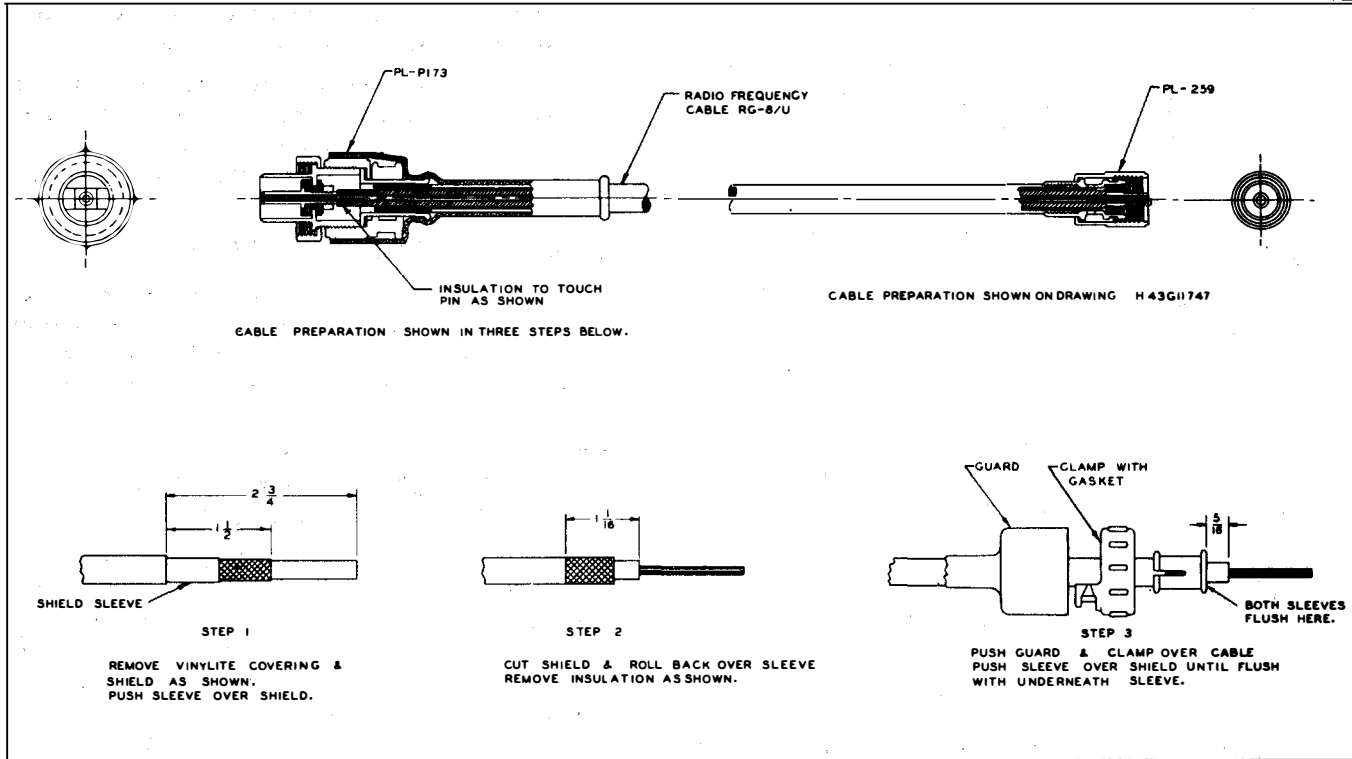
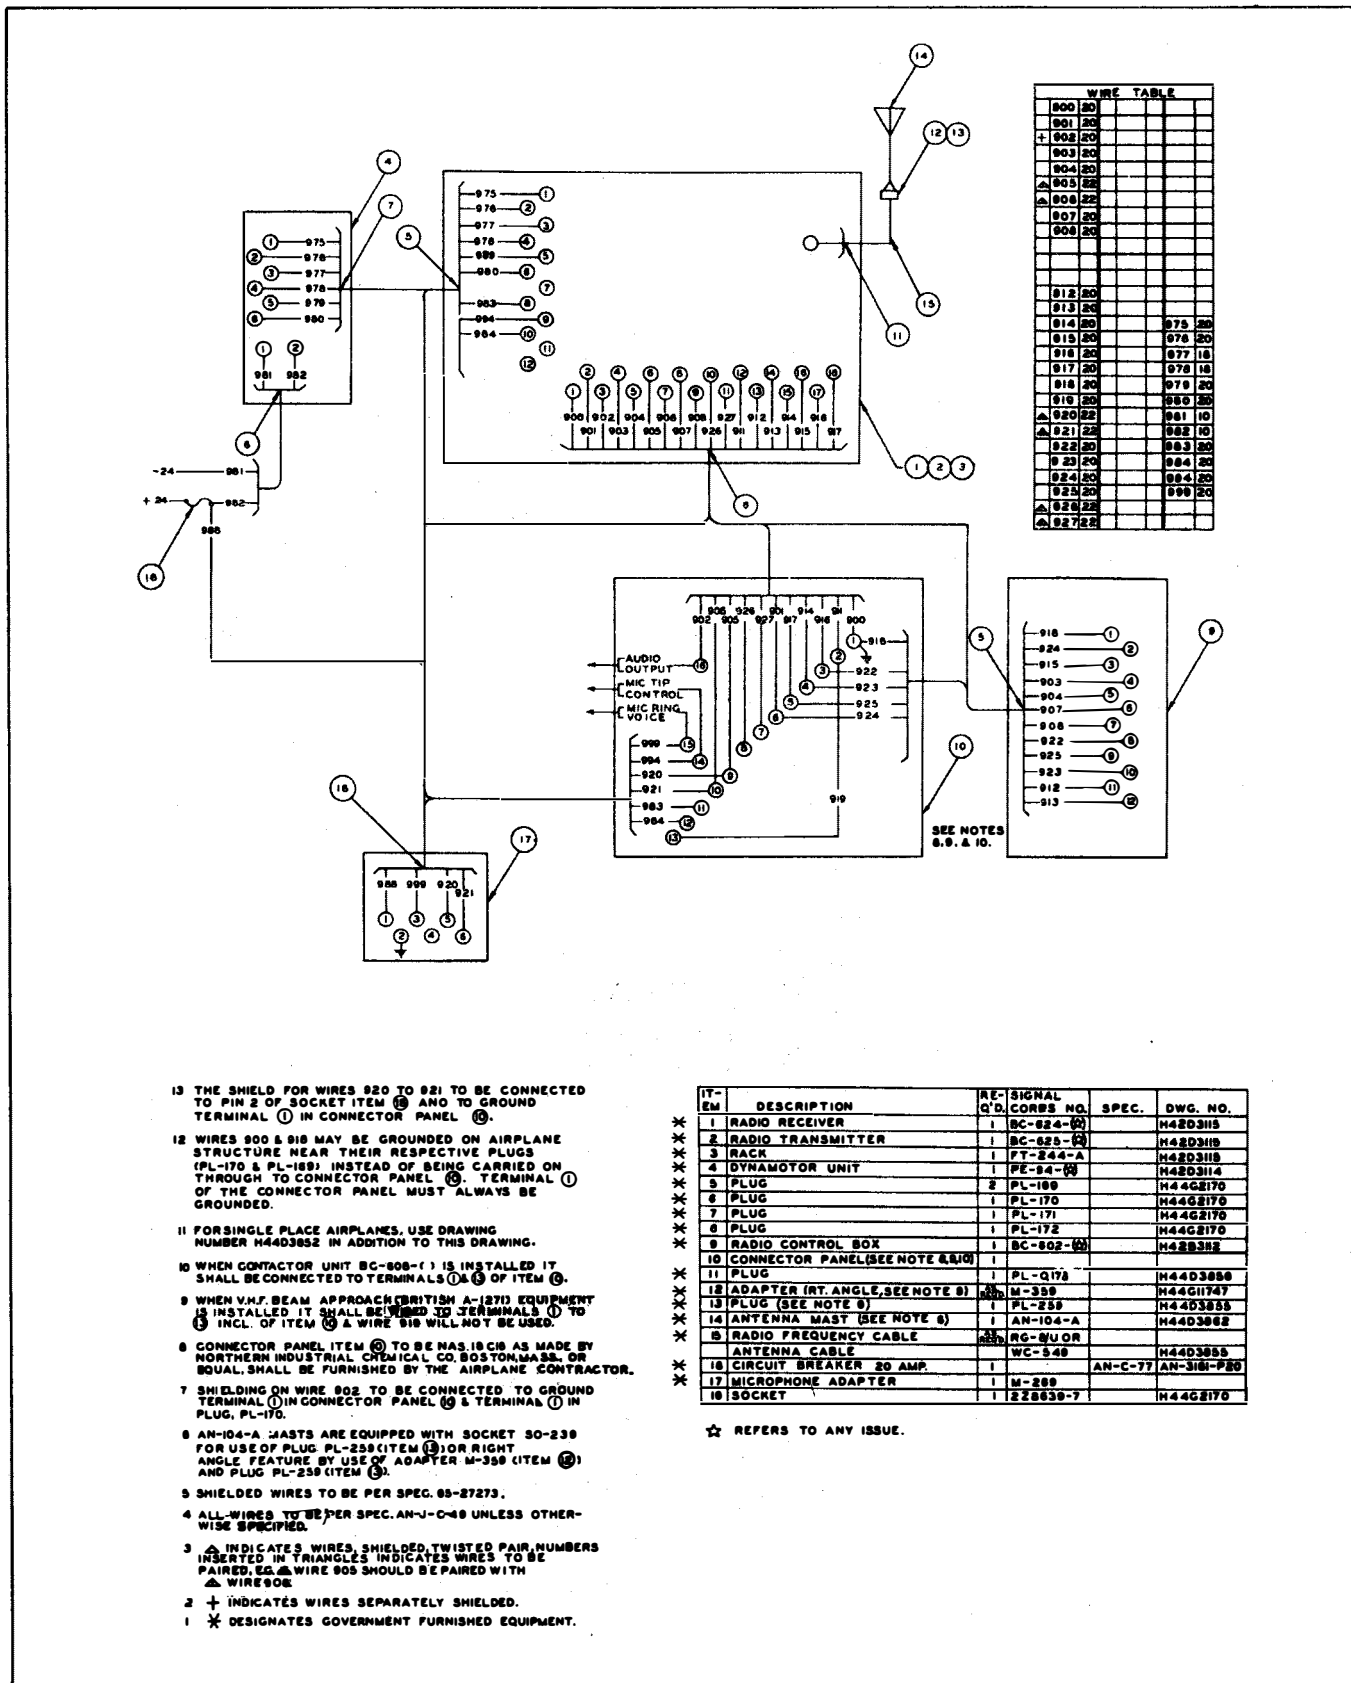

Figure 2-10. Cable Assembly With Plug PL-P173
Figure 2-12. Radio Set SCR-522-A—Typical Wiring Diagram
(a) Remove the two screws from the clamp assembly of Plug PL-P173 or PL-Q173. (See figs. 2-10 and 2-11.)
(a) Cut the required length of #10 wire. (See fig. 2-12.)
(3) PLUG PL-259.—Connect Plug PL-259 to one end of the required length of antenna cable (see fig. 2-12) as shown in figures 2-10 and 2-11.
Connect the components of the radio set according to the instructions given in the wiring diagrams, figures 2-12 and 2-13. The following specific instructions may be helpful when making connections to the jack box.